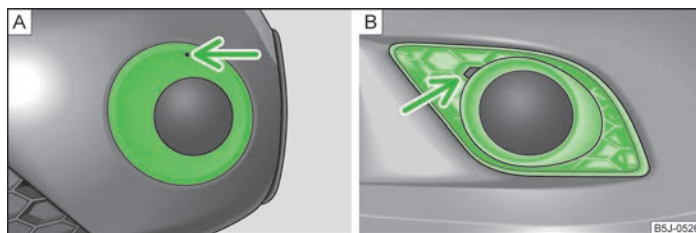

Fig. 151 Front bumper: Fabia Scout/Fabia RS
- » Guide the wire clamp into the opening above the fog light » Fig. 151 - **A** (Fabia Scout) » page 158, *Vehicle tool kit* and remove the cover.
- » Insert a finger into the opening next to the foglight » Fig. 151 - **B** (Fabia RS) and remove the cap.